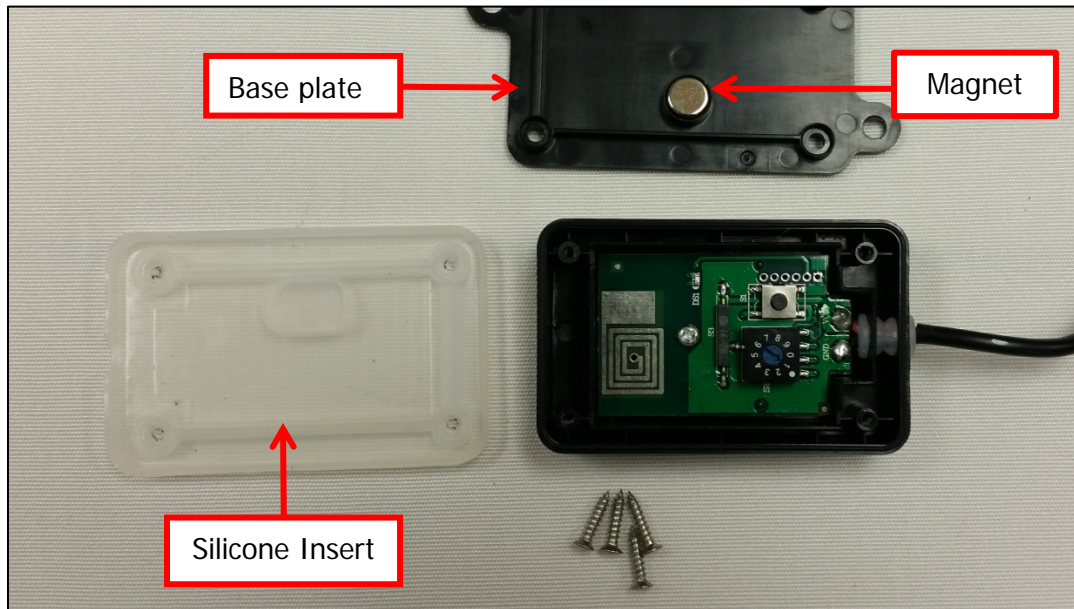

Fig.3
- c. Remove the 4 cross head screws holding the module together. Remove the base plate and silicone insert. See Fig.3.